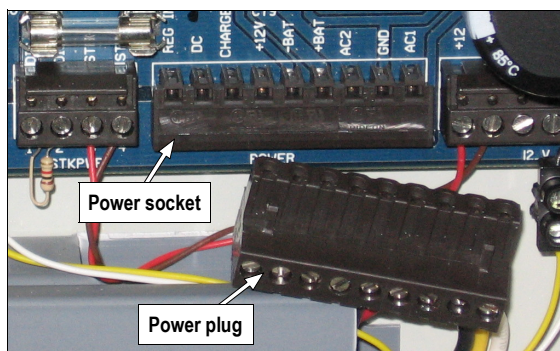

Fig. 2: Push POWER plug downward until removed.
3. Inside the panel housing, remove power from the main control panel PCB by pushing the POWER plug connector (located on the lower right of the PCB) downward until the connector is completely separated from the PCB. Do not disconnect the battery wires. See Fig. 2 below.